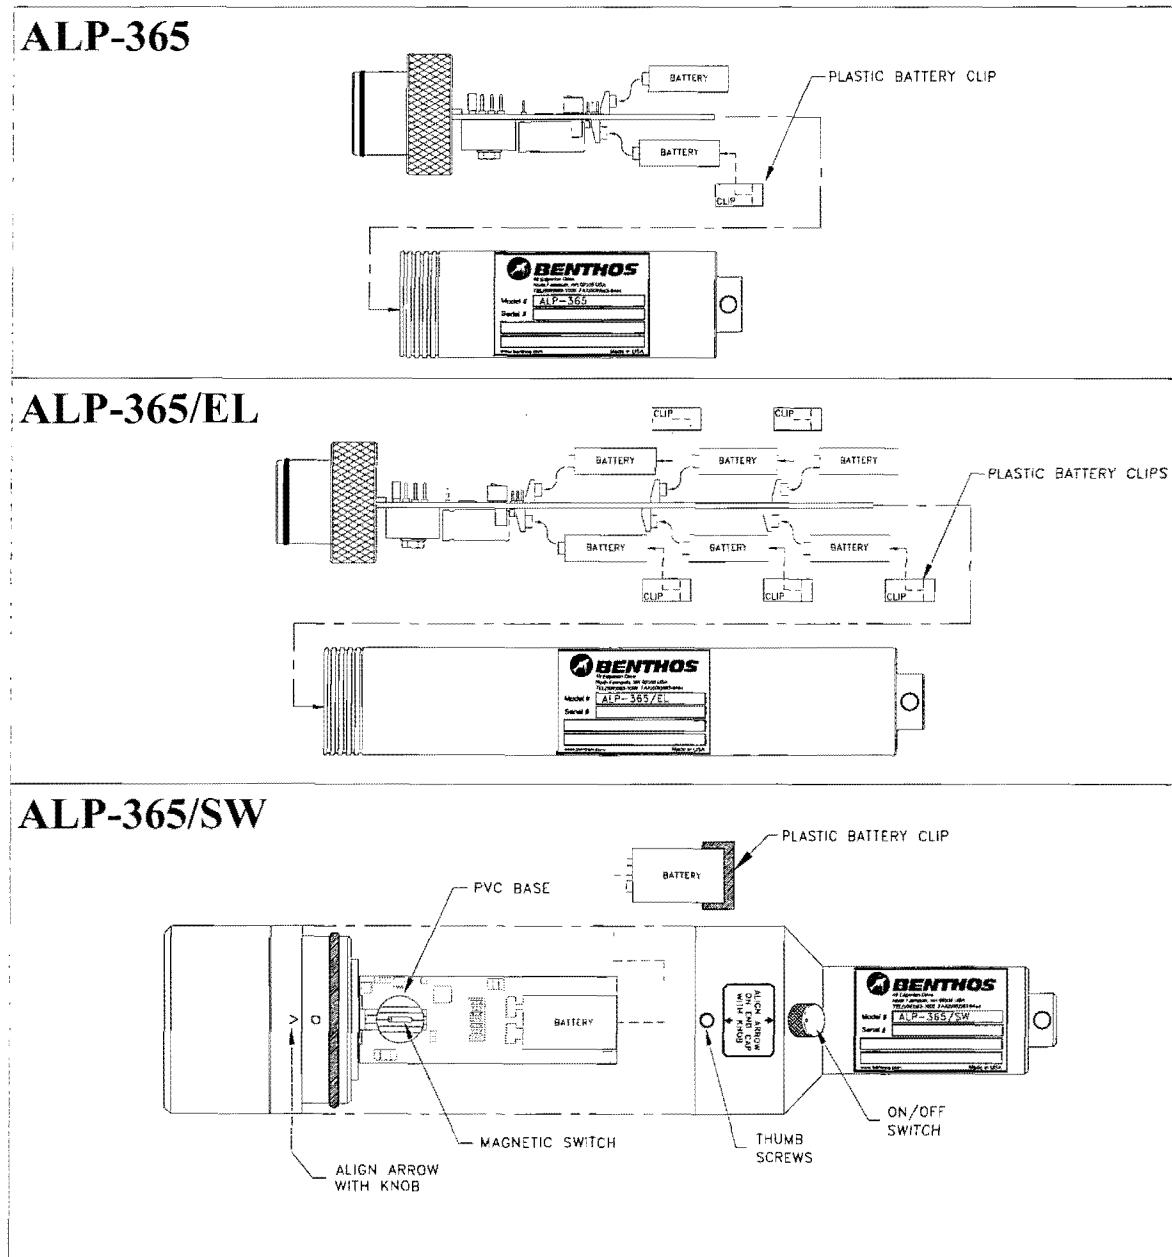

Figure 3 The ALP-365 Series Battery Installation
- ◆ Clip in the alkaline or lithium 9-Volt batteries (Figure 3).
- Install the one battery clip on the recessed battery for the **ALP-365** or the **ALP-365/SW** to prevent the battery from unplugging (Figure 3).
- Install the 5 battery clips on the recessed batteries for the **ALP-365/EL** to prevent the batteries from unplugging (Figure 3).
- For the **ALP-365/SW**, re-install the three screws that secure the end cap to the housing. Verify the proper switch alignment of the **ALP-365/SW** (Figure 3).